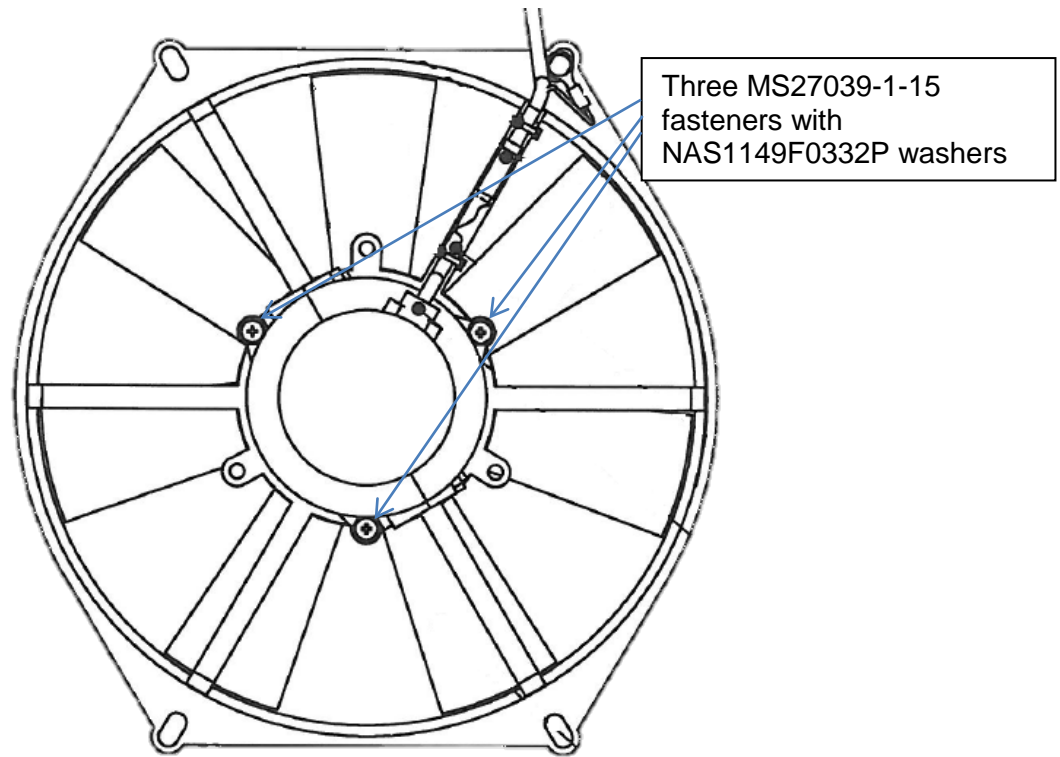

Figure 1
1. Locate and visually inspect the condenser fan motor securement. Refer to Figure 1 to identify the three MS27039-1-15 fasteners mounting the condenser motor to the condenser blower assembly.